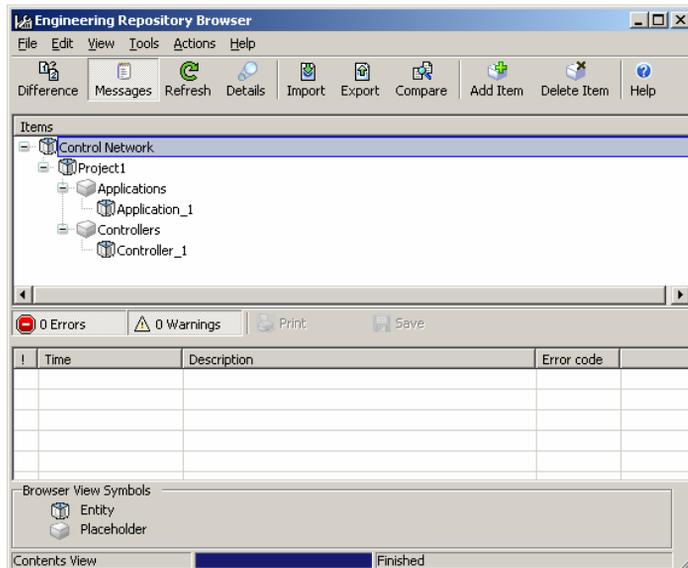

Figure 314. Engineering Repository Browser - Messages View
- **Messages** - Select this to view error and warnings generated in the application. When new entries are added to the log the log view is automatically displayed as shown in Figure 314.